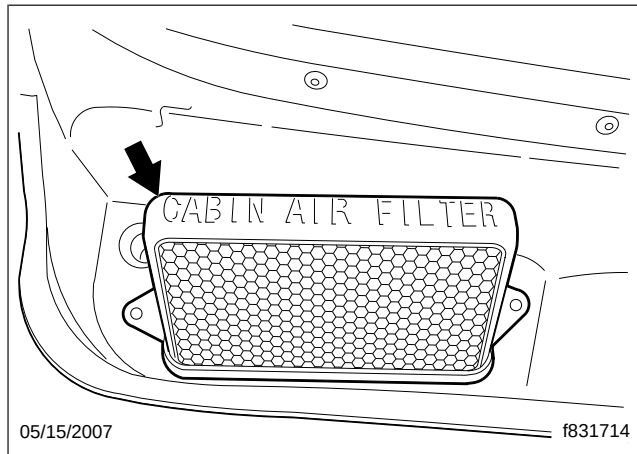

Fig. 5, Fresh-Air Intake Screen
7. Remove the HVAC fresh-air intake screen. See Fig. 5.
20. Install the HVAC fresh-air intake screen. See Fig. 5.